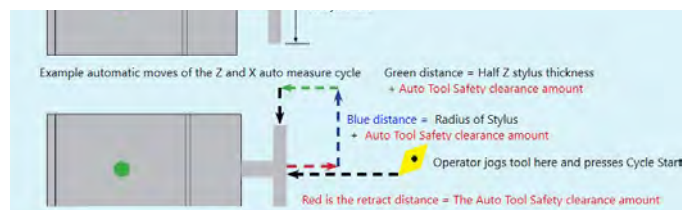

FIGURE 42
D. After you click on Cycle Start, the tool will move toward the probe and touch off in the Z-axis first, and then the X-axis as shown on the probe setting page (see Figure 42).